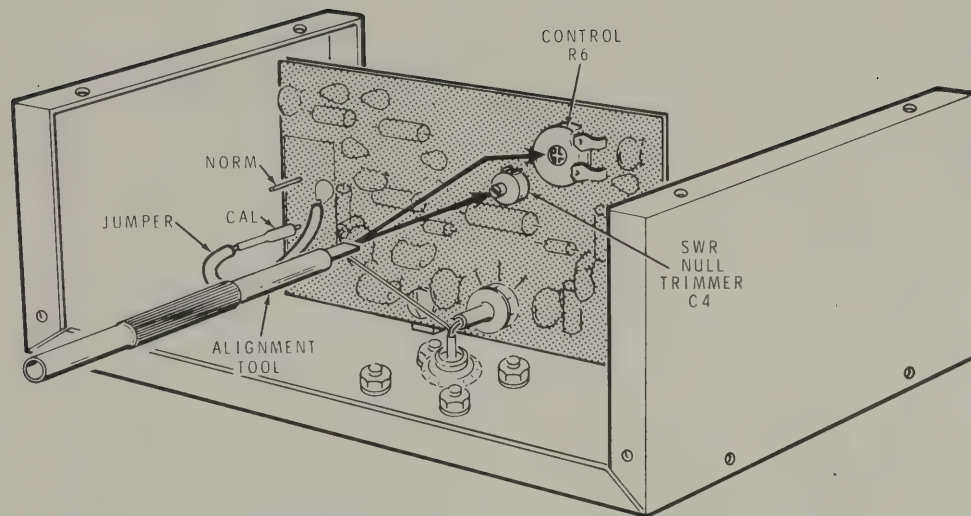

Figure 3
- (✓) Connect the CALIBRATION JUMPER on the remote chassis circuit board to the CAL pin. (See Figure 3 fold-out from this page.)
- (✓) Refer to Figure 3 and adjust SWR NULL trimmer C4 on the circuit board for the best null or greatest dip of the meter needle. This reading should be at or near zero. NOTE: Use only the alignment tool (nut starter) for this adjustment.